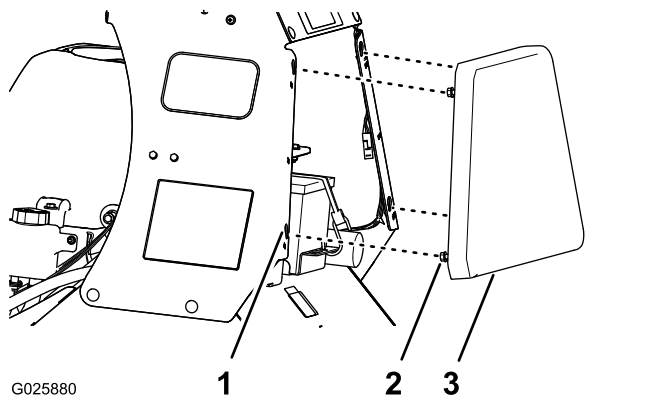

Figure 31
1. Loosen the 4 flanged-head bolts that secure the pad to the left and right console panels (Figure 31).
2. Lift up the console pad (Figure 31) approximately 13 mm (1/2 inch).
3. Pull the console pad straight back and remove the pad from the machine (Figure 31).
1. Align the 4 flanged-head bolts at the forward face of the console pad to the 4 keyhole slots in the frame of the console (Figure 31).
2. Move the pad forward until the pad is flush to the console frame (Figure 31).
3. Move the pad down until the flanged-head bolts are seated in the keyhole slots (Figure 31).